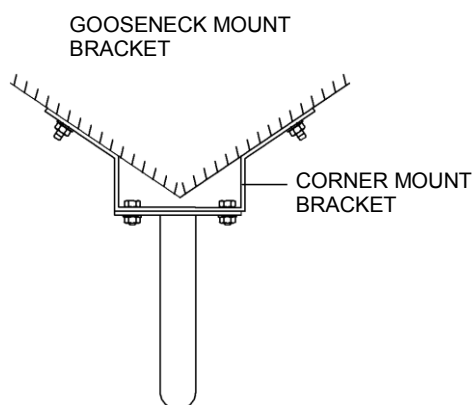
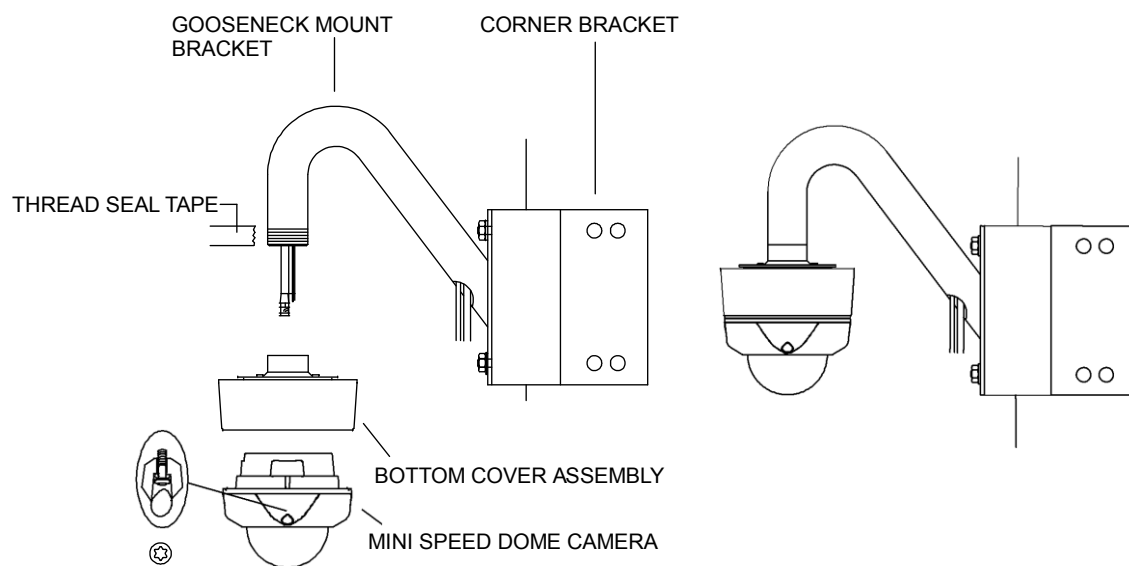

FIG. 23
FIG. 24
5. Screw the set anchor bolt of the bracket by nut on the wall. (FIG. 23)
6. After driving a bottom cover assembly to gooseneck mount bracket, as shown on FIG 23, assemble mini PTZ with bottom cover assembly. (FIG. 24) **Caution)** Be sure to use seal tape for pipe screw to prevent a water leakage.